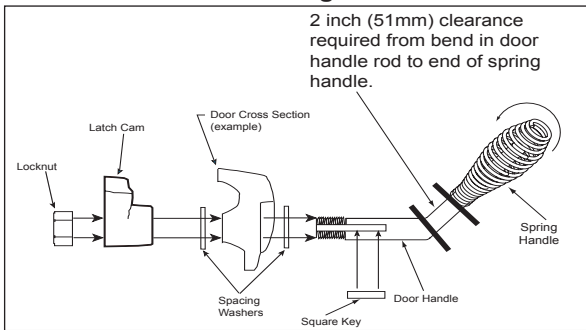

Figure 20.1
3. Install second washer(s) as shown in **Figure 20.1**.
7. Install spring handle turning in a counter-clockwise motion to **required** 2 inch (51mm) clearance location on door handle rod. **Figure 20.1**.